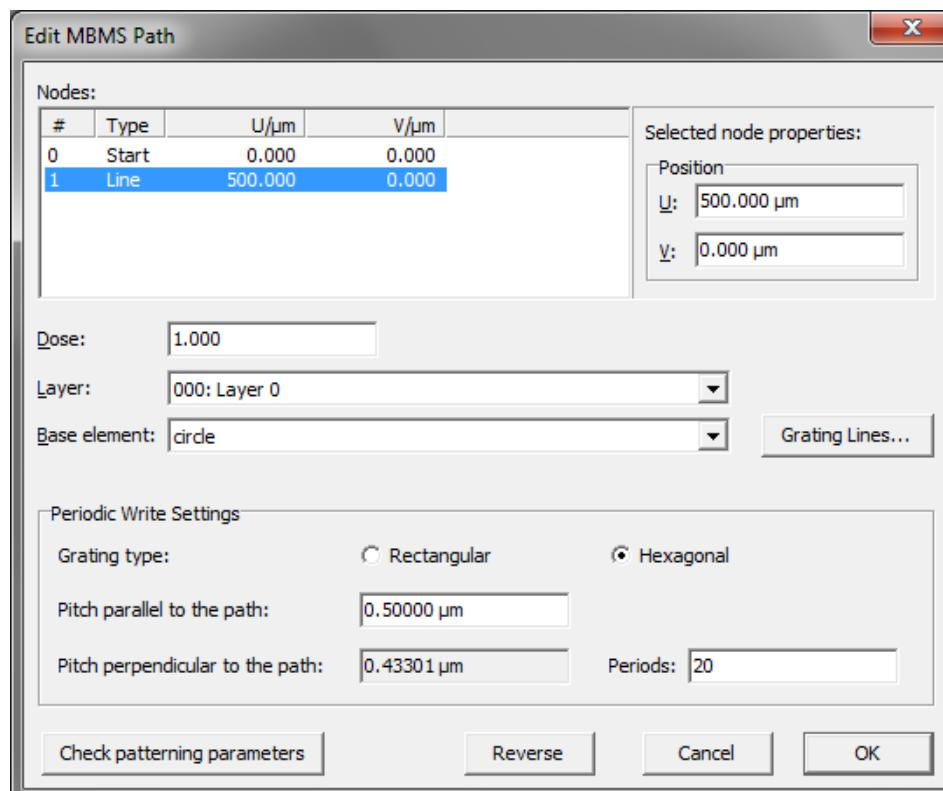

Figure 5-27: Edit MBMS Path dialog to define MBMS elements.
- Press the button **Grating Lines...** (⇒ Figure 5-27 on page 5-47). The **Create Grating Line Structure** dialog will be opened.